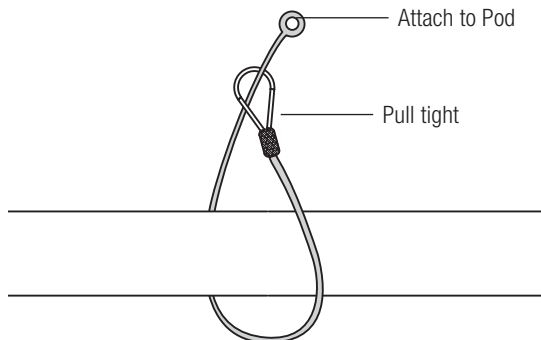

Fig. 3
11. To use the Safety Cable, detach it from the pod. Wrap it around your tower bar and back through the large eyelet. Then pull tight and secure back onto the pod. See Fig. 3